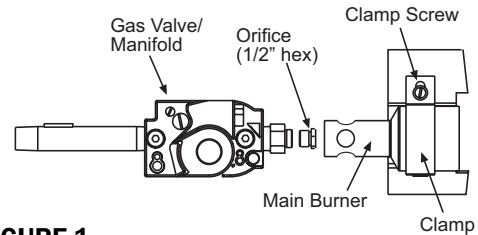

FIGURE 1
1. Loosen screw of burner clamp (Figure 1 or 2).